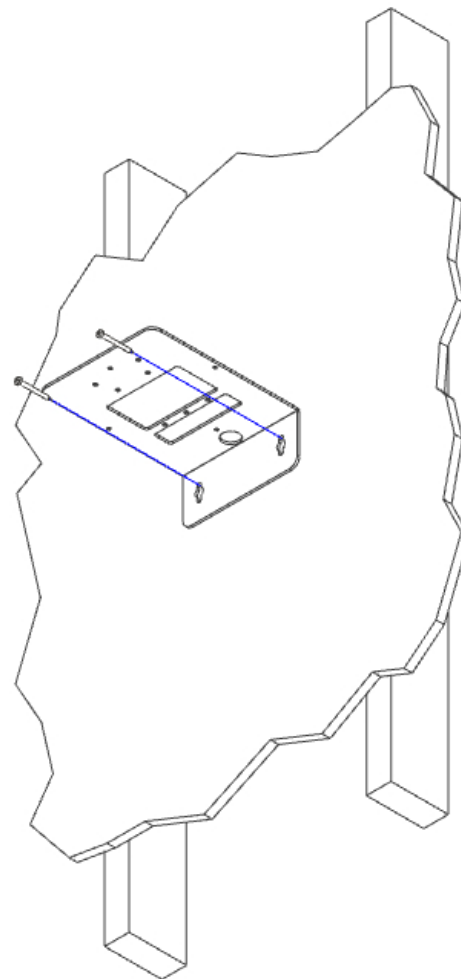

Figure 1
Step 1 – Place the mount on the wall where it is to be installed (it is recommended that you mount directly to a stud if possible) and mark the screw locations. Use a minimum of two (2) 1/4-20 or larger screws (not included) to secure the mount in place. However, if there is no stud at the mounting location, it is recommended that you use a minimum of 4 suitable anchors to secure the mount in place (Figure 1). Due to the weight of this unit, plastic expansion wall anchors are not adequate for drywall installations. During installation, Oberon recommends that one of the following be used: 1) threaded drywall anchors; 2) threaded drywall toggles; 3) sleeve type hollow wall anchors (a.k.a. molly bolts); or 4) toggle bolts.